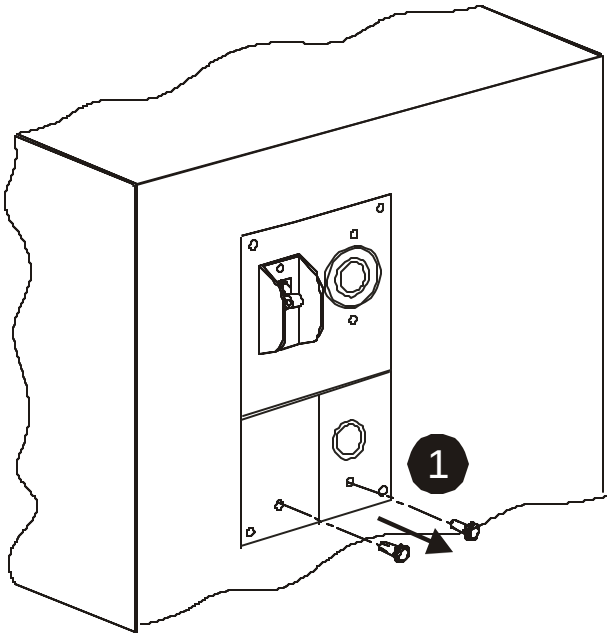

Figure 3.3 Remove Access Panels for Hard wire connections
- 1. Remove the two screws that secure the access panels to the PDU assembly as shown in Fig 3.3.